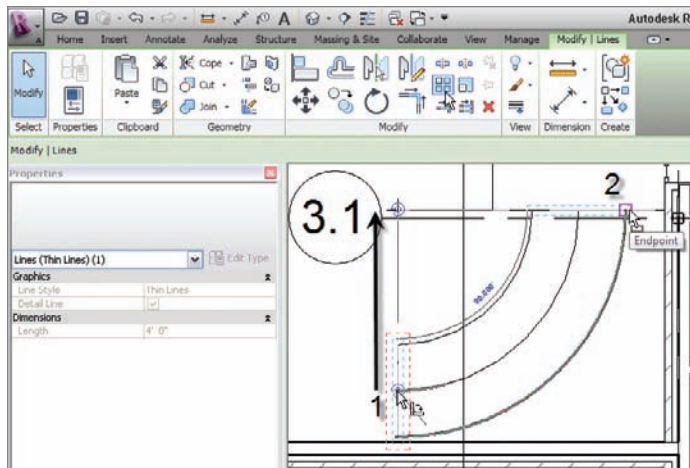

FIGURE 10.41 Arraying the line to create your own treads
4. Select the line at the left end of the arcs, as shown in Figure 10.41.
5. Click the Array button on the Modify | Lines tab, as shown in Figure 10.41.
10. When these options are set, pick and drag the blue icon to the center point you turned on earlier (see Figure 10.41).